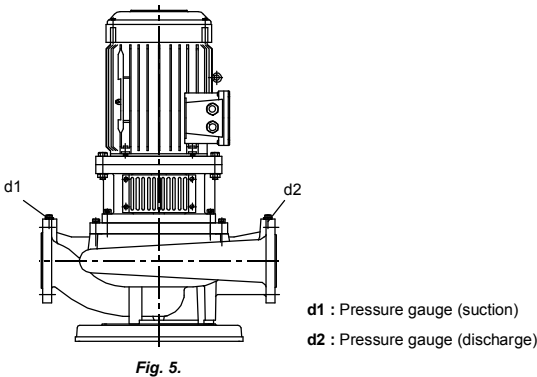
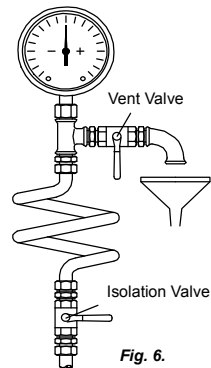

Fig. 5.
Fig. 6.
- Pressure and vacuum gauges must be properly anchored and connected at the measuring points located on the pump flanges (Fig. 5) or on the pipes close to the flanges approximately 8 mm diameter tubing with pig tail configuration to lessen pressure fluctuation. For safety purposes isolating and vent valves should be fitted before the gauges (Fig. 6).